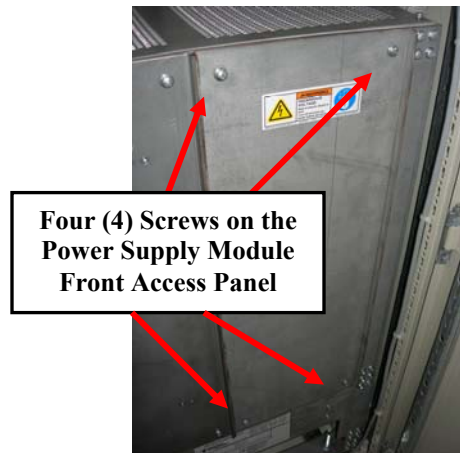

Figure 22 Location of Screws on Front Access Panel
21. Level the power supply module with the power supply frame. Secure power supply front access panel with four (4) screws using a Phillips screwdriver. (Refer to Figure 22.)